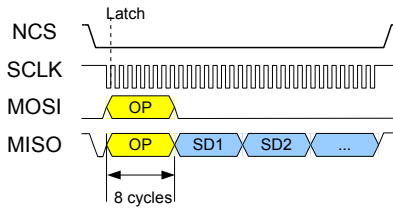

Figure 24: SDAD transmission: read SD
iC-MU latches the absolute position on the first rising edge at SCLK, when NCS is at zero (e.g. Figure 24 LATCH). Because iC-MU can output the sensor data (SD) immediately, the master can transmit the **SDAD transmission** command directly. The sensor data shift register (the size of which is 8 to 40 bits in multiples of 8 using iC-MU) is switched and clocked out between MOSI and MISO.
Note: iC-MU latches the absolute position on the first rising edge at SCLK, when NCS is at zero (e.g. Figure 24 - LATCH).